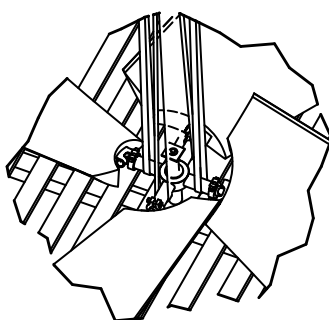

Figure 24. Attached to Blade Shanks
2. Wrap or loop slings around blade shanks (**Figure 24**).